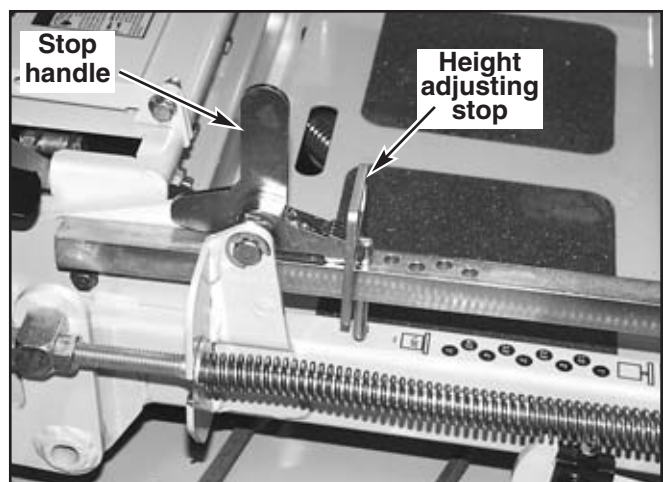

Figure 11-34
4. Set cutting height at 3 1/4" in the height indicator by placing the height adjusting stop in the 3" hole, and turning the height stop so that the flat side is against the stop handle. Fig. 11-34
5. Clamp the height adjusting stop against the stop handle (Fig. 11-34). This will assure that the height will not move during the setting